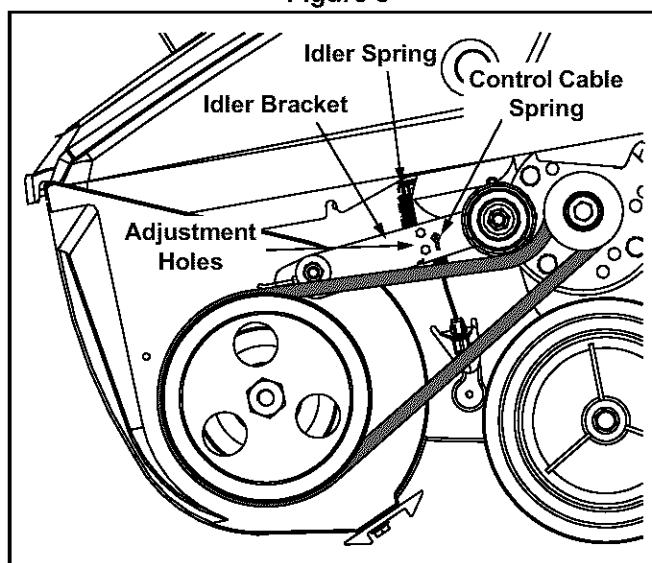

Figure 9
- Move the extension spring (found on the end of the control cable) **from the low position to the middle position** on the idler bracket. See Figure 9.
NOTE: Be careful not to lose the idler spring when moving the clutch cable spring. See Figure 9.